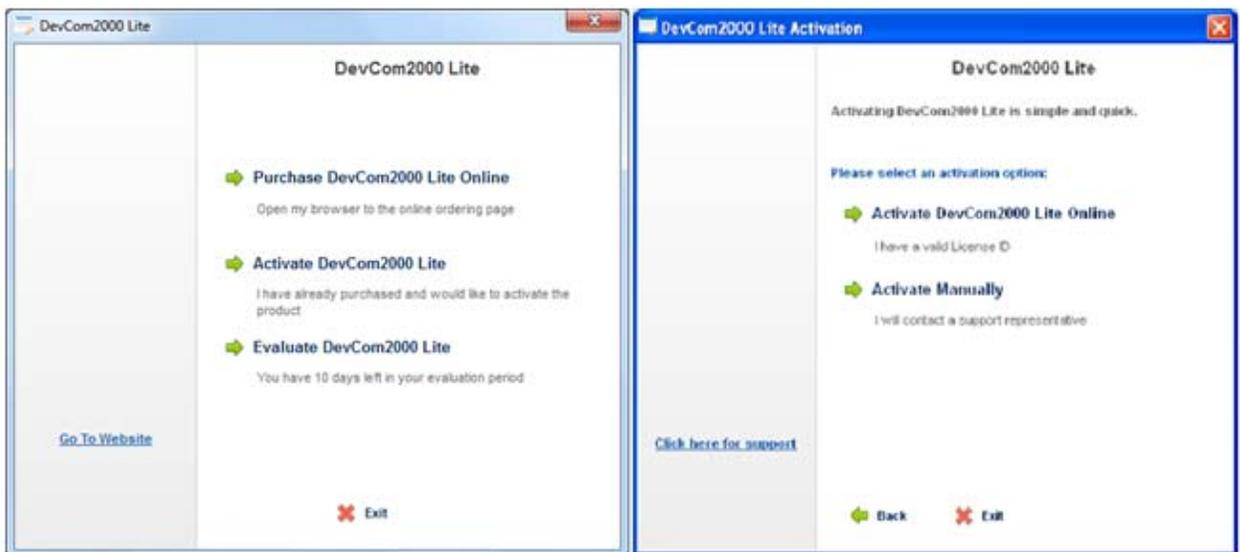

Figure 1 Initial Download Screen
3. Click Activate DevCom2000 Lite Online (See Figure 1)